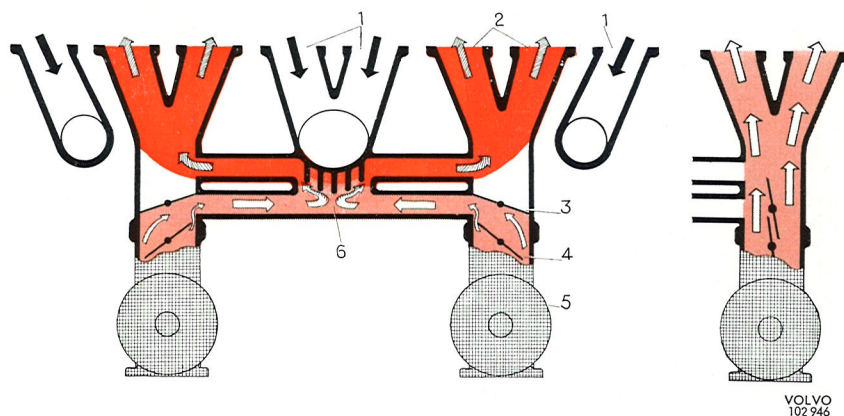

Fig. 2-85. Exhaust emission control system, B 20 B, principle of operation
Fig. 2-85 shows how the exhaust emission control system functions in principle for the B 20 B engine. The intake manifold is fitted with a secondary throttle (3) at each carburettor. For normal driving (with low power output) the throttles (3) are closed. This forces the mixture of fuel and air from the carburetors to a central preheating chamber (6) where the intake charge is heated and thoroughly mixed, whereby a completely evaporated and homogeneous mixture is obtained.